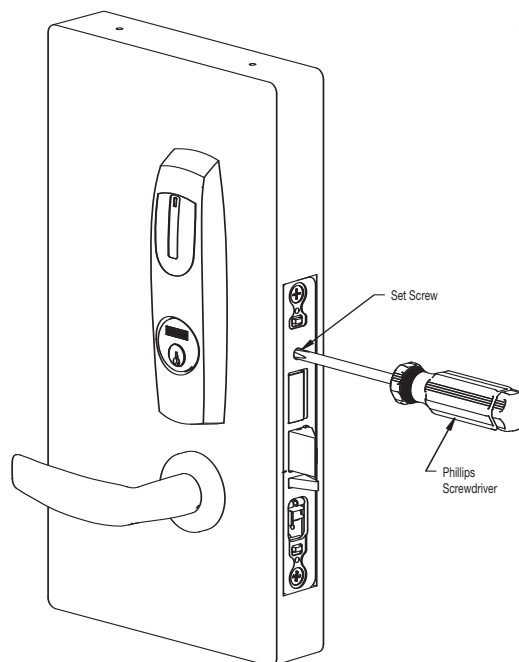

Fig 2
2. Tighten the cylinder clamp screw to prevent unscrewing of the cylinder (Ref. Fig. 2).